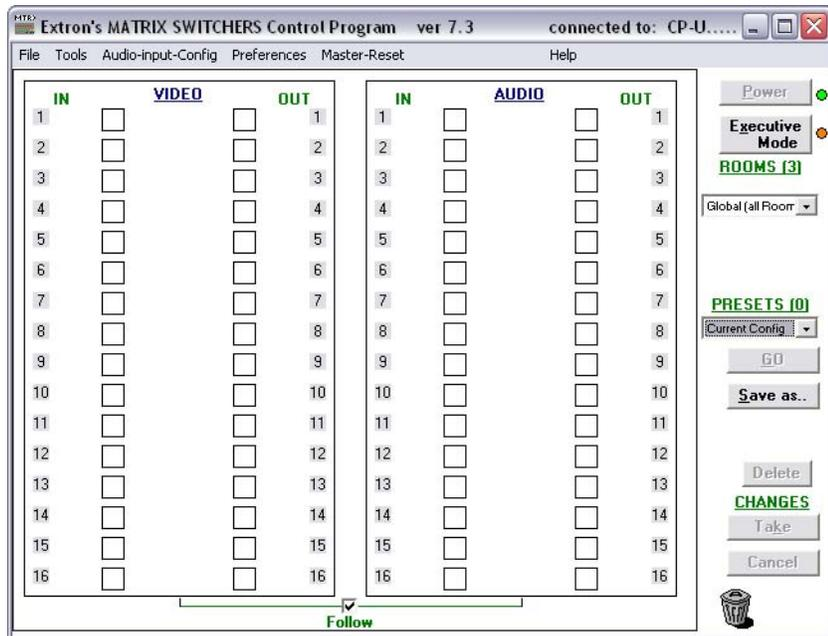
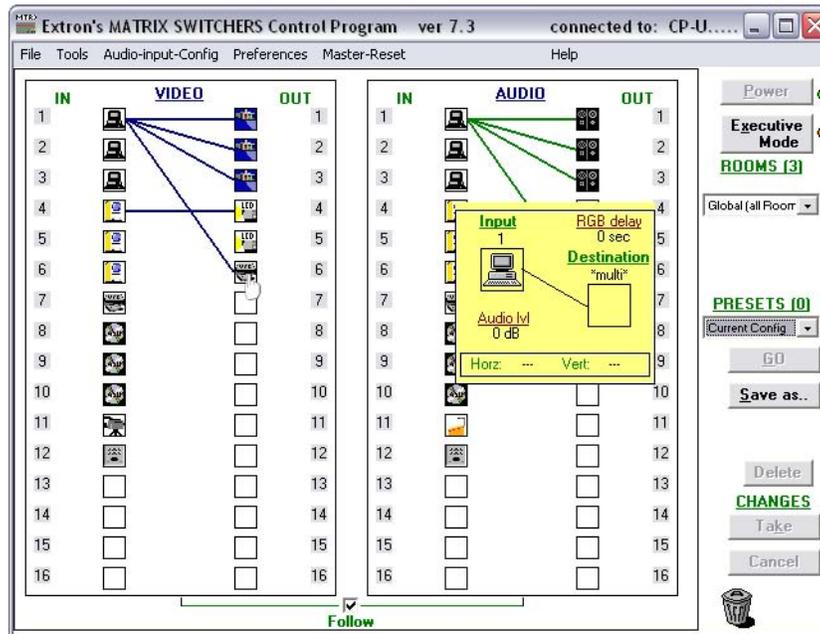

Figure 5-5 — Extron Matrix Switchers Control Program window (blank)
Figure 5-6 — Sample program window (complete)
4. The Extron Matrix Switchers Control Program window (figure 5-5 and figure 5-6) appears. The window displays the current configuration of the attached matrix.
- For quick display of information on a specific input or output device, position the cursor over that device in the control program window. The program opens a window that details the connections to that device, the audio level, the frequency of the video signal input from or output to that device, and, for the CrossPoint switchers only, the switching interval (RGB delay). See the inset box in figure 5-6.